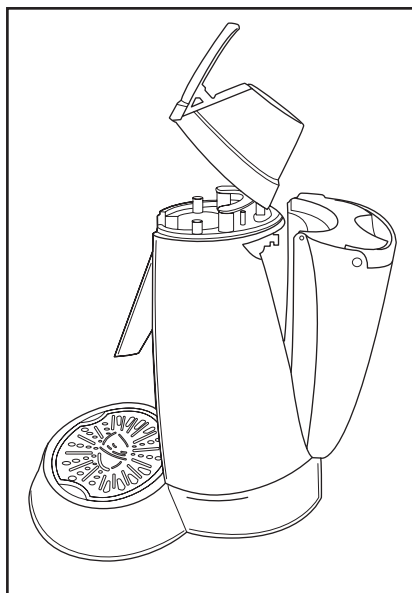

FIGURE 3
1. Remove the Water Tank by pulling out and then up to remove from the Base, see Figure 3.